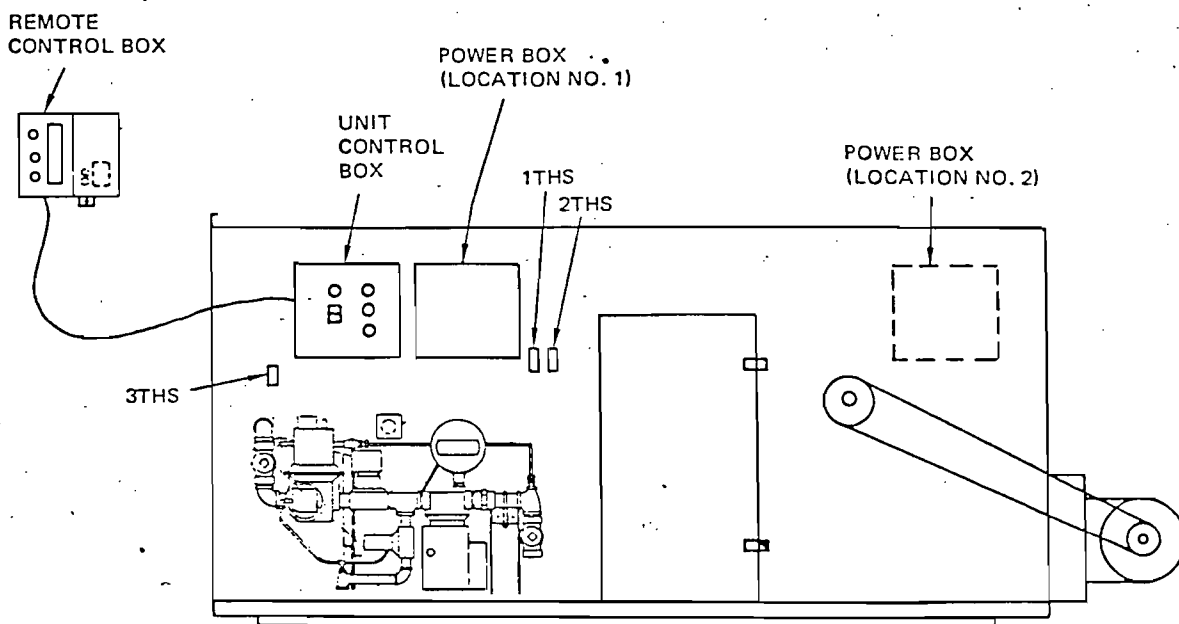

FIGURE 1 - Unit Control Boxes
Three adjustable temperature controls (1THS, 2THS, 3THS) are provided on the unit along with "Start-Stop" operating switch (1RS) and three pilot lights (1LT, 3LT, 5LT) on the unit control box. The power box, which may be in "Location 1" or "Location 2" on the unit, contains an "On-Off" disconnect switch (DS). See Figure 1.